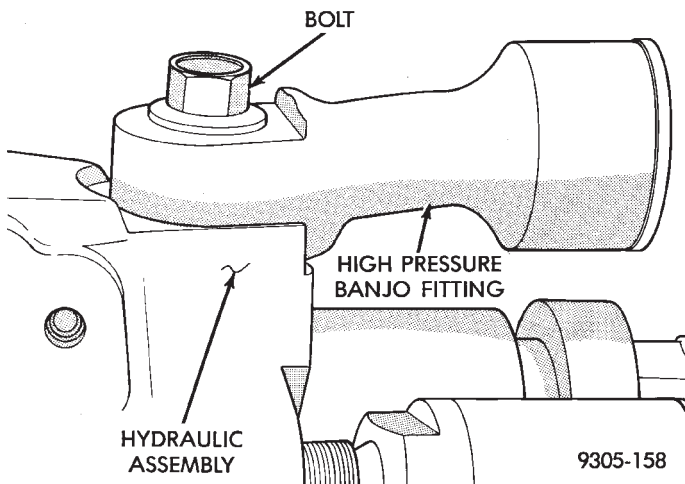

Fig. 7 High Pressure Banjo Fitting
(4) Remove high pressure banjo fitting (Fig. 7) from hydraulic assembly.